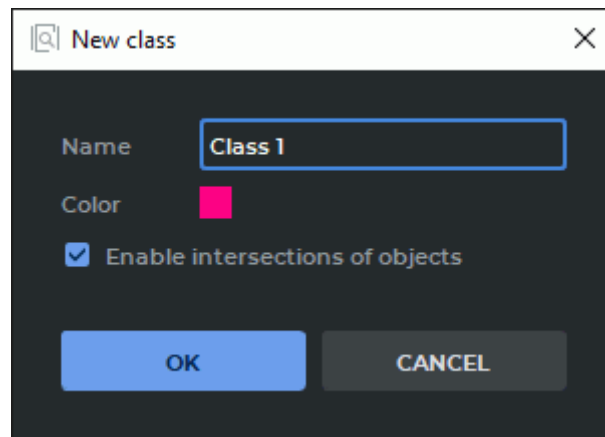

Figure 11.3: The dialog box for adding a new object class
In the **New class** dialog box (Fig. 11.3)), print the name of the object class. By default, an object class is assigned a name in *Class <unique number>* format.
- **editing class parameters.** Click the **Settings**  button for the selected object class and change the parameters in the **Class settings** dialog box. The interface of the **Class settings** dialog box is identical with the interface of the dialog box for creating a new class (see Fig. 11.3);